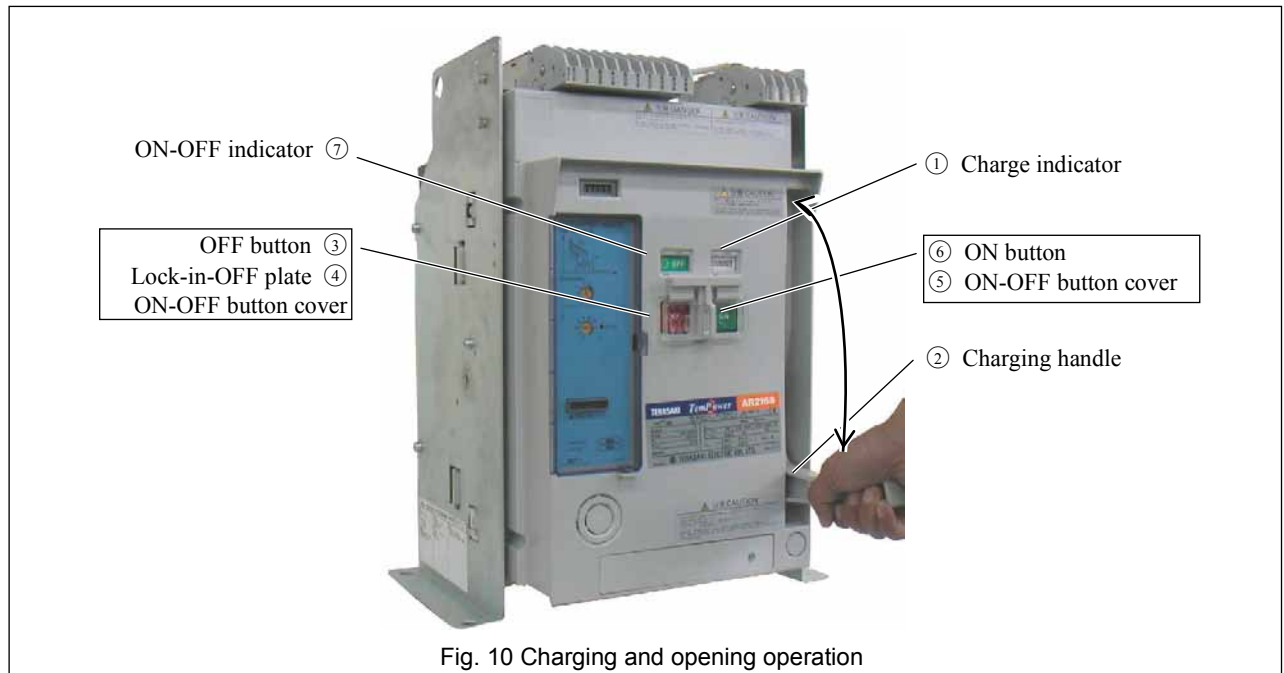

Fig. 10 Charging and opening operation
Pump the charging handle (Fig. 10 ②) until the charge indicator (Fig. 10 ①) shows “CHARGED” Pumping the handle with the full stroke 6 - 8 times will fully charge the closing springs.
When the charge indicator (Fig. 10 ①) changes to “DISCHARGED” while the specified operation voltage is applied to the control circuit terminals ② and ②, the charging motor is activated to start charging the closing springs. Upon completion of the charging operation, the charge indicator shows “CHARGED” and the charging motor is automatically deactivated. The time required for the motor charging operation depends on the operation voltage or the ACB types, but does not exceed 10 seconds.
- 1) The charge indicator (Fig. 10 ①) shows "CHARGED".
- 2) The OFF button (Fig. 10 ③) is not locked with the lock-in-OFF plate (Fig. 10 ④).
Open the ON-OFF button cover (Fig. 10 ⑤) and press the ON button (Fig. 10 ⑥) The ACB will be closed with a sound. The ON-OFF indicator (Fig. 10 ⑦) shows "ON" and the charge indicator (Fig. 10 ①) shows "DISCHARGED".
Press the ON switch shown in Fig. 7. The latch release coil (LRC) (Fig. 7) will be excited and the ACB is closed with a sound. The ON-OFF indicator (Fig. 10 ⑦) shows "ON", the charge indicator (Fig. 10①) shows "DISCHARGED", and the charging motor starts charging the closing springs.
Open the ON-OFF button cover (Fig. 10 ⑤) and press the OFF button (Fig. 10③). The ACB will trip open with a sound. The ON-OFF indicator (Fig. 10 ⑦) shows "OFF".
Press the OFF switch shown in Fig. 7. The Instantaneously-rated shunt trip device (SHT) or the undervoltage trip device (Fig. 7) will be excited so that the ACB trips open with a sound. The ON-OFF indicator (Fig. 10 ⑦) shows "OFF".